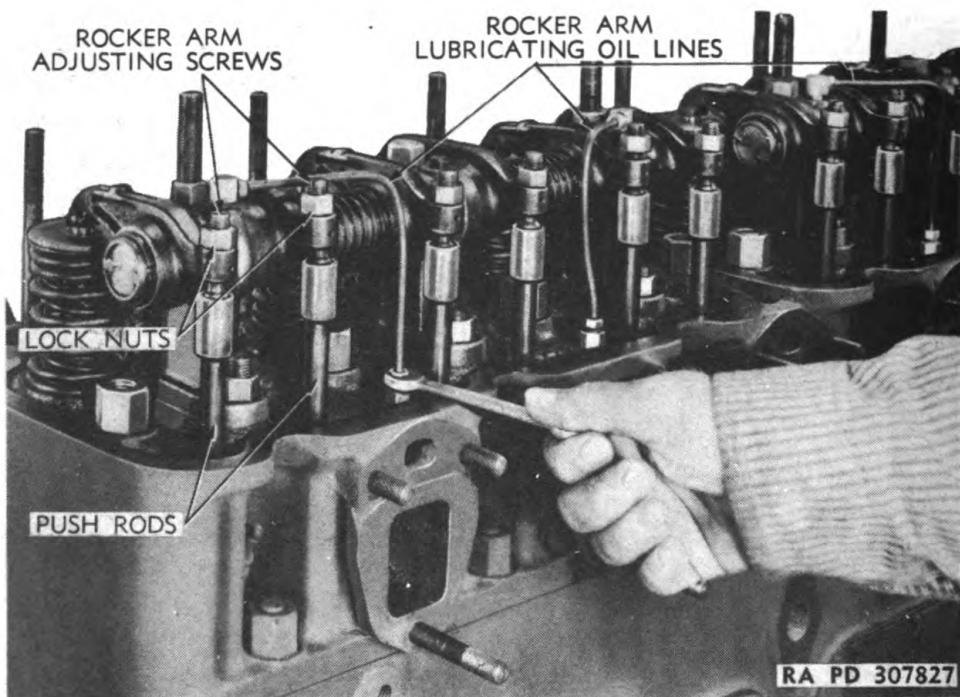

Figure 23 — Disconnecting Rocker Arm Lubricating Oil Line
q. Remove Governor Assembly (fig. 23). Remove two cap screws and lock washers to disconnect spring bracket from cylinder block. Disconnect ends of the two oil lines from fittings on governor. Remove nuts and lock washers and the mounting clamp from the two governor mounting bolts and remove governor assembly.
r. Remove Lubricating Oil Pressure Gage Unit (fig. 23). Remove pressure gage unit by unscrewing it from side of cylinder block.
s. Remove Lubricating Oil Pressure Relief Valve Assembly (fig. 23). Remove acorn nut and copper gasket, loosen lock nut, and unscrew pressure adjustment screw from side of cylinder block, then
d. **Remove Cylinder Head Assemblies** (fig. 23). Rotate engine in stand until it is right side up. Unscrew hand wheel nuts in rocker arm covers from studs and lift covers and cover gaskets from cylinder heads. Disconnect lower ends of rocker arm lubricating oil lines.